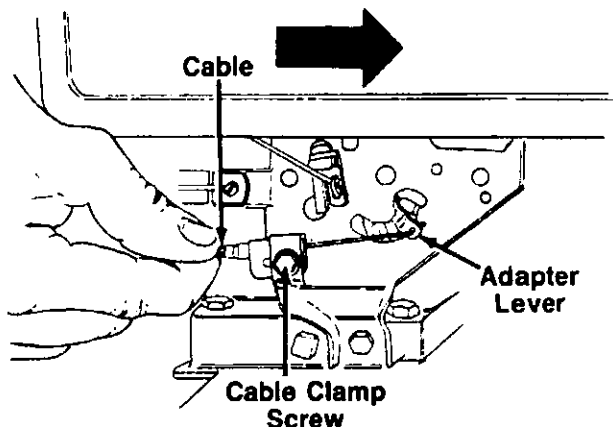

FIGURE 28.
1. Loosen the cable clamp screw. See figure 28.
2. With the throttle control in FAST position and the cable connected to the adapter lever, push the cable through the cable clamp in the direction shown in figure 28 until the adapter lever is as far up as it will go.